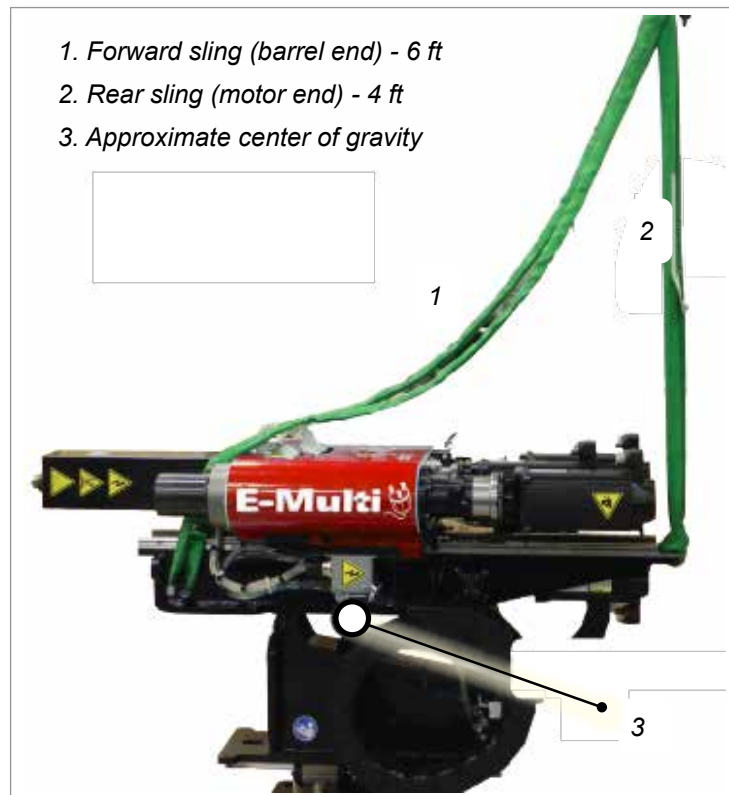

Figure 12-2 Sling positions of the E-Multi Radial vertical beam (in horizontal orientation) and the approximate location of the center of gravity.
3. Attach the slings to the unit as shown in Figure 12-2, Figure 12-3 and Figure 12-4. Use the slings provided in the crate. Note the approximate point of the center of gravity.